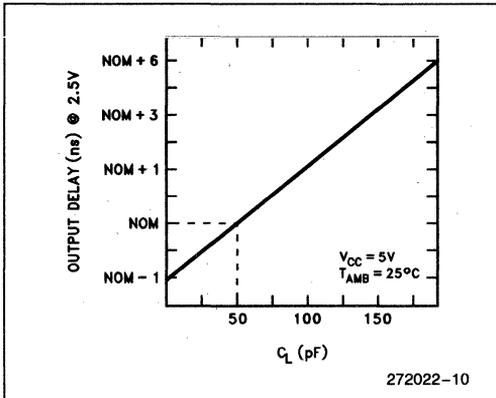

Figure 9. Typical Output Delay Variations Versus Load Capacitance
- Specified for a 50 pF load, see Figure 9 for capacitive derating information.
4. Specified for a 50 pF load, see Figure 9 for capacitive derating information.